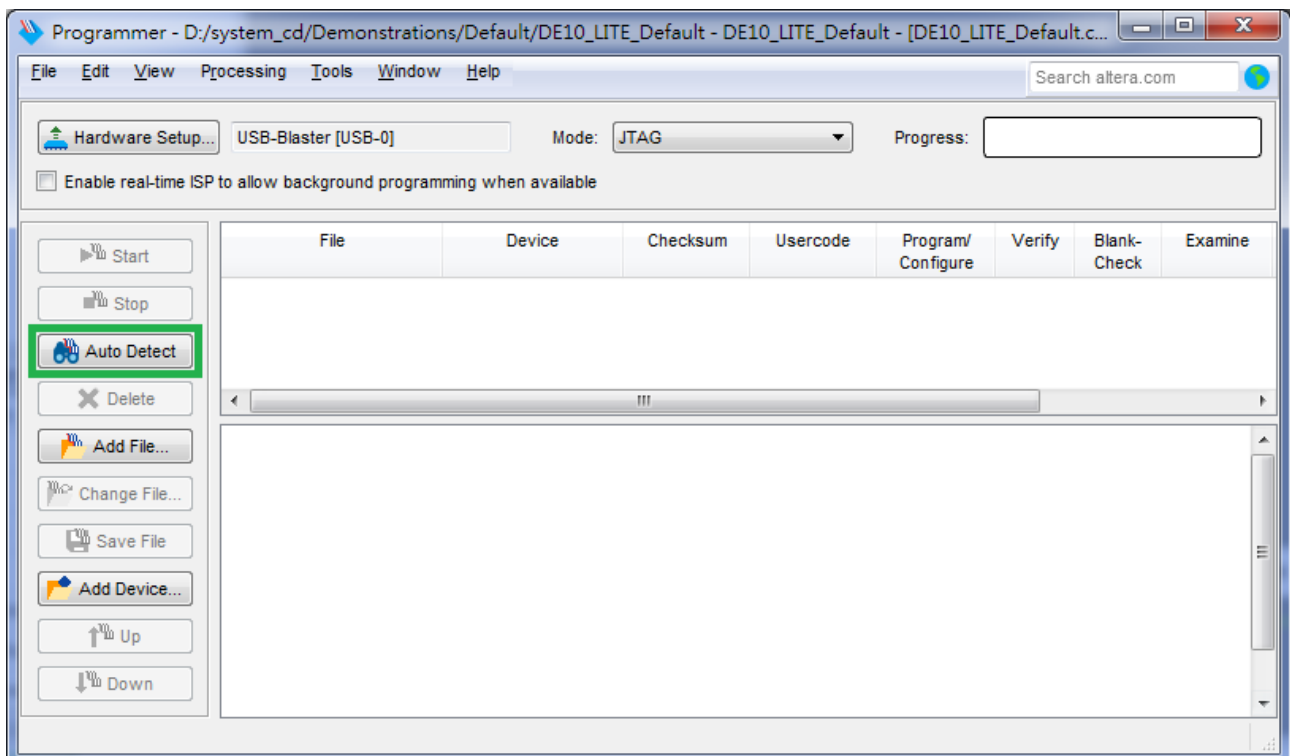

Figure 3-4 Detect FPGA device in JTAG mode
- Click “Auto Detect” to detect all the devices on the JTAG chain, as circled in Figure 3-4.